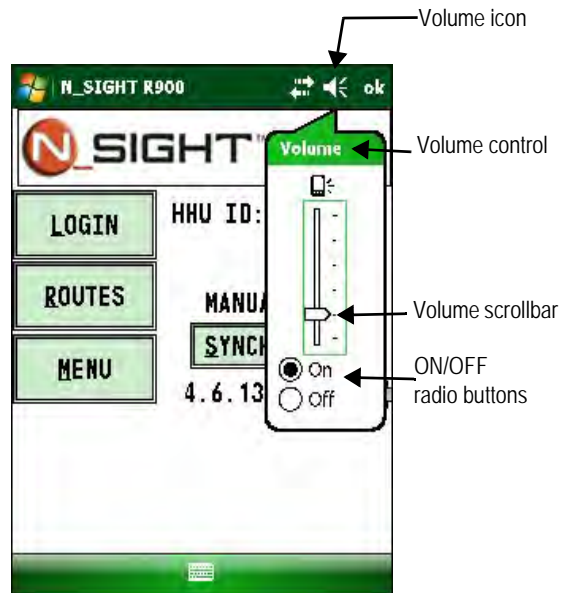

Figure A.8 Nomad Volume Control
- 1 On any screen in N_SIGHT R900, click the volume icon at the top of the screen. The following drop-down scrollbar appears. See Figure A.8.